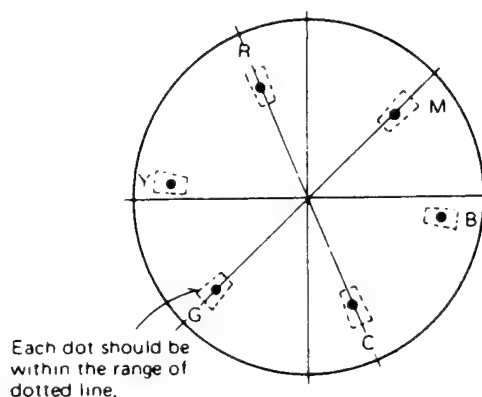

Fig. 7 Vector Pattern of Colour Bar Signal
- (6) Observing the inner dots, adjust the coil L605 and LEVEL ADJ VR602 on PCB-MAIN alternately so that the double dots are converged. The converged points are located in about half way on the lines connecting the centre of the vector and each outer dots. (Fig. 7)
- (7) Repeat steps (6) and (7) above so that the outer and inner dots are converged almost uniformly. Remove the 10pF capacitor from across pins 4 and 5 of DL601 on PCB-MAIN.